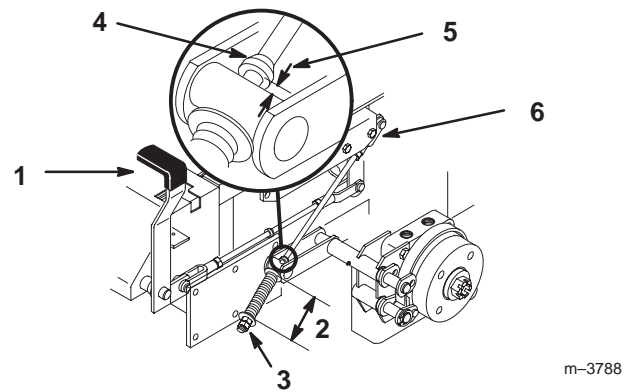

Figure 43
2. Measure the length of the spring. Measurement should be 2.75" (70 mm) between washers (Fig. 43).
3. If adjustment is necessary, loosen the jam nut below the spring and tighten the nut directly below the yoke (Fig. 43). Turn the nut until the correct measurement is obtained. Tighten the two nuts together and repeat on opposite side of unit.
- A. Measure the distance between the trunnion roller and the collar on brake rod. Measurement should be 3/16"–1/4" (5–7 mm) (Fig. 43).
6. If adjustment is necessary, loosen the jam nut directly below the yoke. Turn the bottom rod until the correct measurement is obtained (Fig. 43). Tighten jam nut at yoke